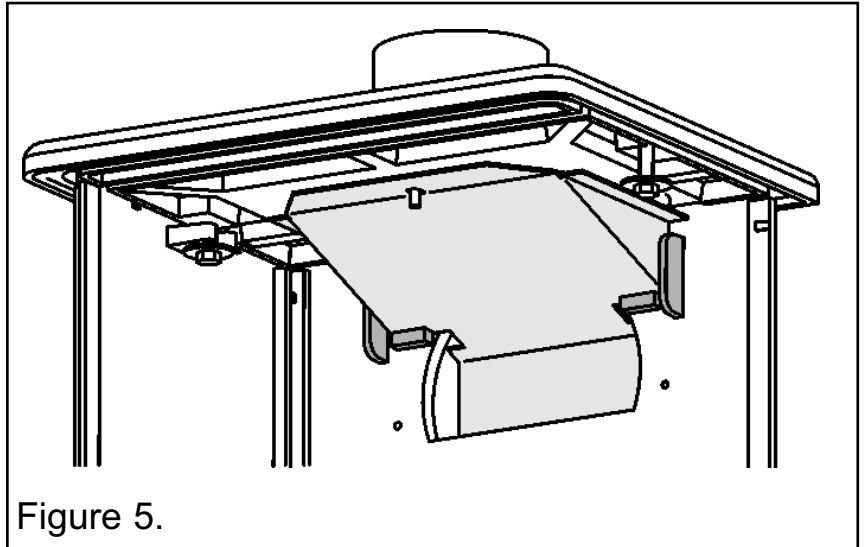

Figure 5.
2. The flue restrictor plate should be assembled to the stove as in Figure 5 if required.